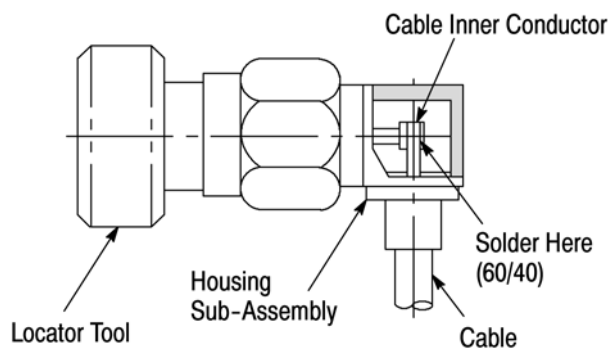

Figure 4
1. Secure locator tool to threads of coupling nut as shown in Figure 4.
3. Place pre-heated soldering iron on tip of contact and solder as shown in Figure 4.